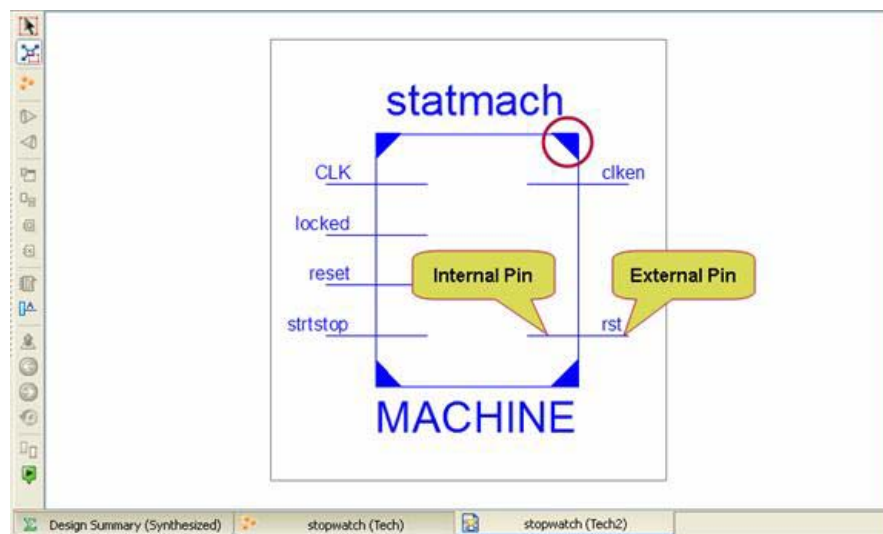

Figure 5-4: Schematic Representation
The created schematic appears as shown in Figure 5-4.
- All hierarchical blocks have triangles in four symbol corners as shown in Figure 5-4 and Figure 5-5.